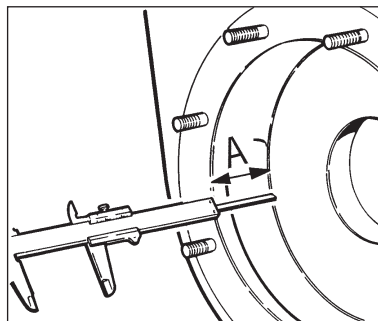

fig. 9
- Unscrew the nuts (52) and remove the pump casing, taking care not to damage the casing gasket (43)
- Block the impeller and unscrew the self-locking impeller nut (33)
- If necessary, replace the casing gasket (43)
- Check that the distance between the top of the impeller blades and the flat machined surface in the casing (01) is 0.3 – 0.6 mm (A-B in figs. 9, 10, 11)
- Remove the lip seal (41)
- Mount the stationary portion of the seal (39) together with its gasket (38). To facilitate this operation, wet the seat on the head and the gasket with methylated spirits. If necessary, use a wooden plunger or similar to push the stationary seal (39) into its seat
- Tighten the head screws (45) and nuts (45.1)
- Smear the gasket of the rotating seal seat (40) and the shaft sleeve (31) with oil and slip the seal on to one end of the shaft sleeve
- Mount the seal support ring (25.1). Push this forward until it is possible to reassemble the impeller key (60)
- Reassemble the impeller (03), the impeller washer (66) and tighten the impeller nut (33)
- Check that the distance between the impeller and the flat machined surface in the casing is between 0.3 and 0.6 mm ($A - B = 0.3 - 0.6 \text{ mm}$ - see figs. 9,10,11). Mechanical seals supplied as spare parts have 1 or 2 shims (25.2) which serve to position the impeller further forward if it is too far from the flat machined surface in the casing. The shims should be fitted between the seal support ring (25.1) and the impeller. Further adjustments can be carried out with the casing gaskets and rear wear plate gaskets (where fitted)
- Reassemble the casing gasket (43) after smearing both sides with grease